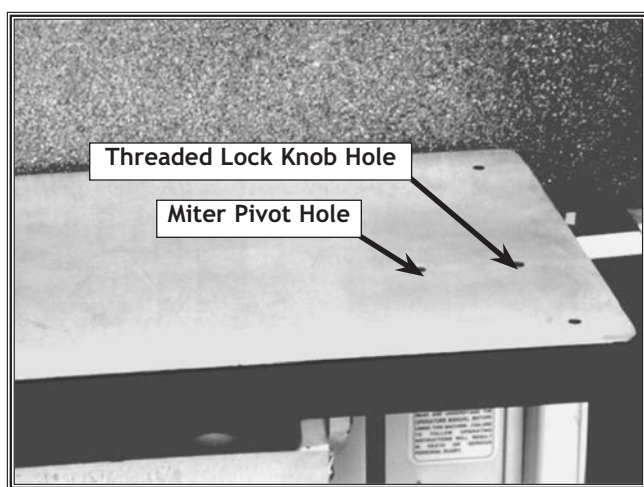

Figure 18. miter gauge holes in main table.
1. Locate the miter gauge pivot hole and the threaded lock-knob hole in the main table. See Figure 18.